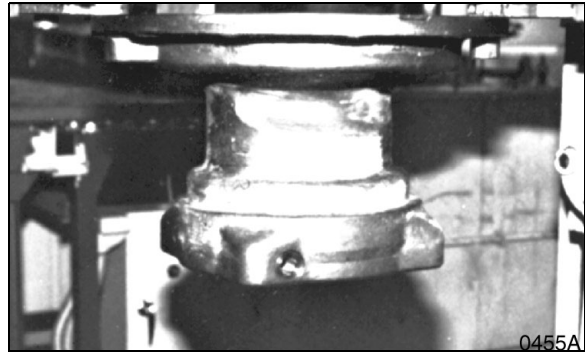

Figure 29
1. Position motor casing face down (Figure 29).